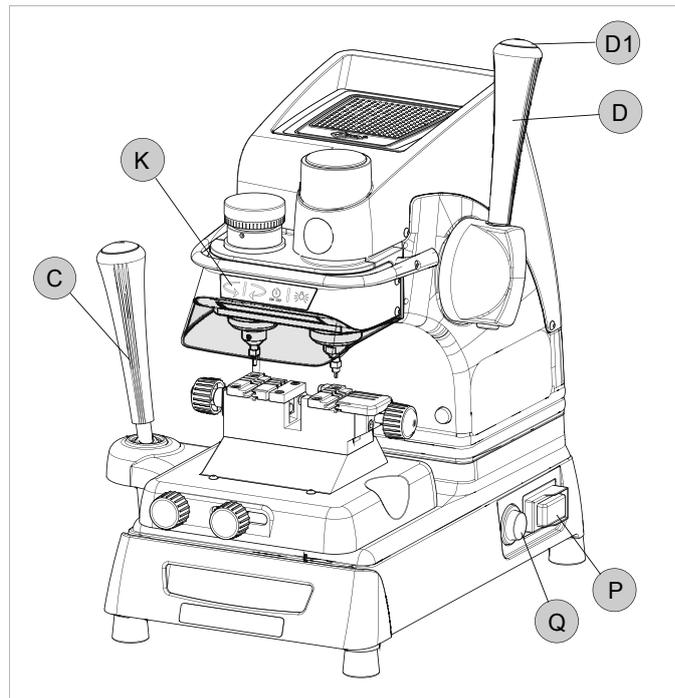

Fig. 11
- 1) Press the luminous switch (Q) to power the motor (Fig. 11).
- 2) Press the push button (D1) on the vertical axis lever (D) and lower the lever.
**ATTENTION: if the motor does not start and the lever (D) will not move, check that the lever is fully tightened.**
**A flashing warning light (W) signals that the motor is on (chap.3.6.2). Attention: cutter in motion!**
- 3) To turn off the motor release the lever (D) or turn off one of the 2 switches (P) or (Q).